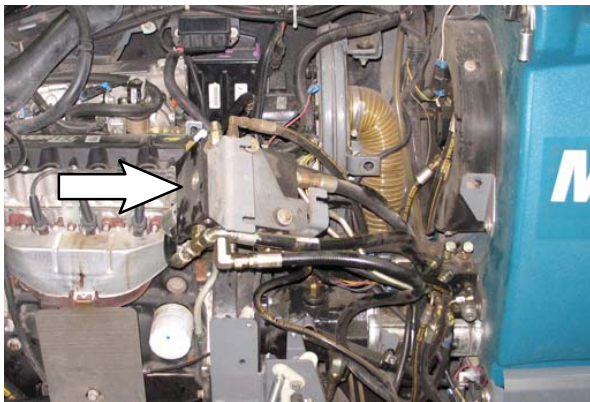

FIG. 14
23. Reinstall the scrub valve assembly onto the solution tank. (Fig. 14)